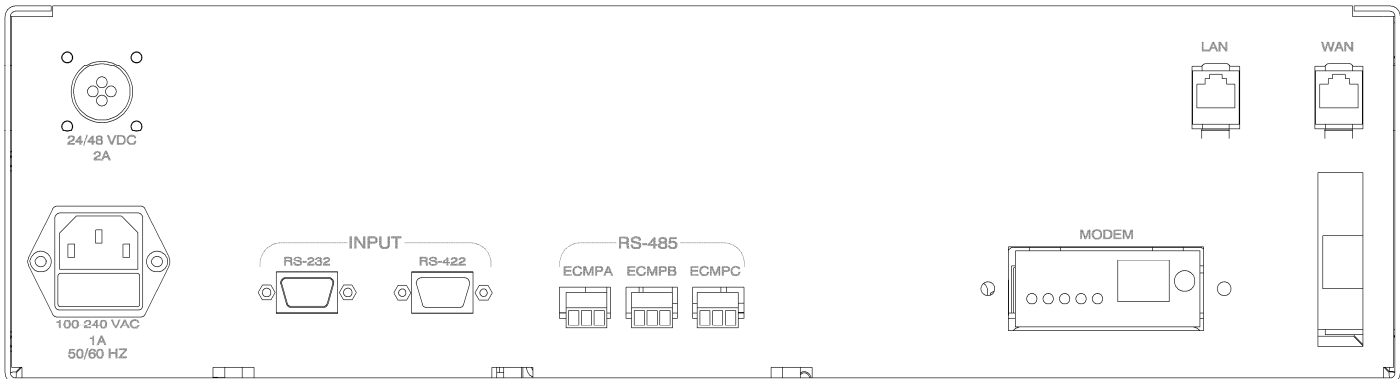

Figure 2-1: VR-Link/ECMP External Connections (Rear View of VR-Link)
Figure 2-1 shows the rear panel of the VR-Link, which contains most of the interfacing connections required for installation.
- Using a Cat5 cable (not supplied), connect the VR-Link's rear LAN port (see Figure 2-1) to an available wired or wireless network device (router, hub or GSM/CDMA modem). When connecting the VR-Link to a network, a static IP address or DHCP address may be used depending on the how the network is setup.
- Connect a PC directly to the LAN port on the VR-Link (see Figure 2-1) using a standard Ethernet cable. With the SBC option installed, the host computer is set for DHCP. The IP address for the host computer will be assigned by the SBC while the IP address of the VR-Link is defaulted to 192.168.254.2
- Using a standard Ethernet cable, connect the VR-Link's LAN port (see Figure 2-1) to an available wired or wireless network or network device (router, hub or GSM/CDMA modem). When connecting the VR-Link to a network through the LAN port, the VR-Links SBC will attempt to assign any other devices on the network an IP address, if they are set for DHCP. If connecting the LAN port to a local network, ensure the network does not already have a DHCP server enabled.
- Using a standard Ethernet cable, connect the VR-Link's WAN port (see Figure 2-1) to an available wired or wireless network or network device (router, hub or GSM/CDMA modem). The WAN port can be set to either static or DHCP depending on how the network is setup (See paragraph 2.4.2 for IP configuration setup). Consult your network administrator for correct IP configuration.